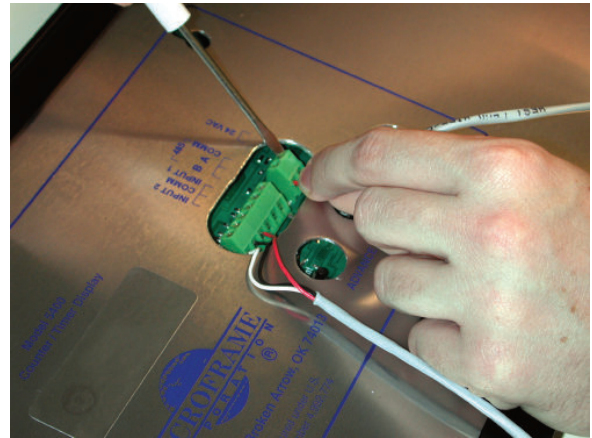

Figure 1: Wire in the power adapter.
Step 1: Wire in the power adapter to the 24VAC terminal. Simply place one wire from the adapter under one of the screwdown terminals and the other wire under the other screwdown terminal as shown (**Figure 1**).
Step 2: Attach the external push buttons to the Input 1, Input 2 and Common terminals located to the left of the 24VAC terminal. **Figure 1** shows the push buttons connected to the terminals.